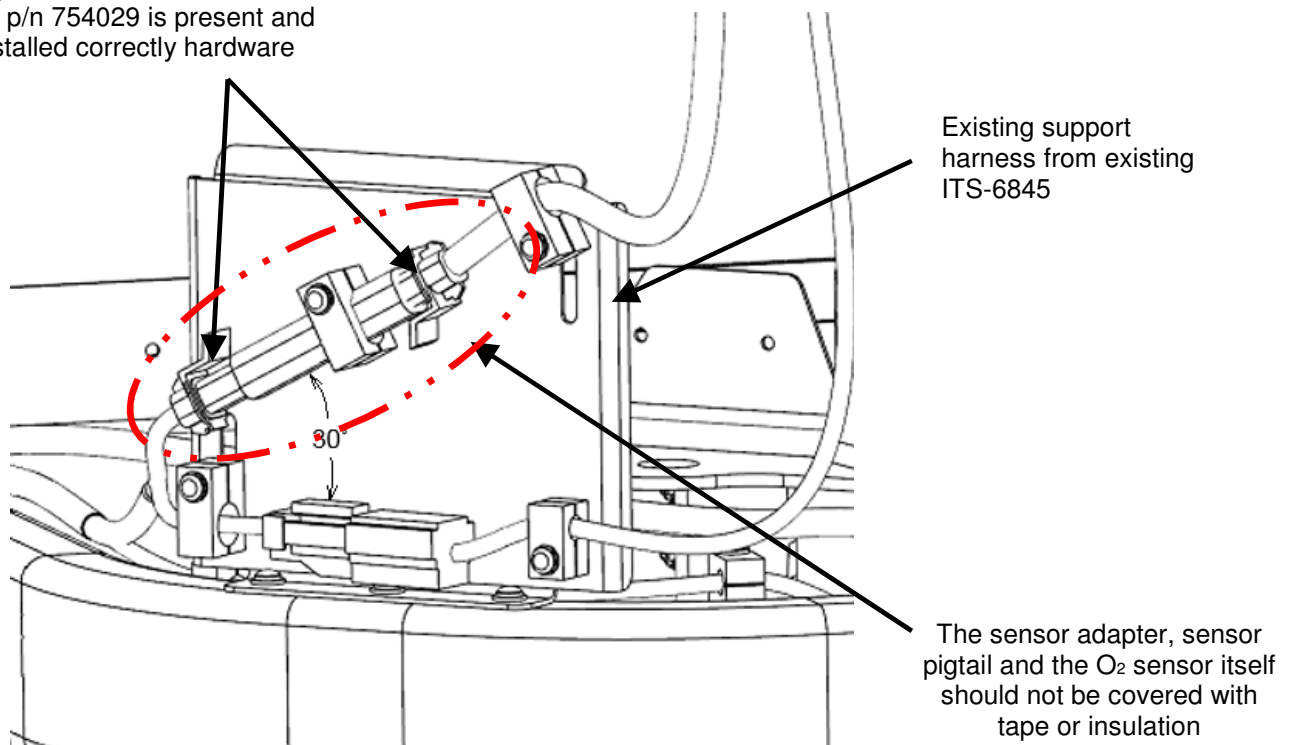

Figure 1: O₂ Sensor Blue Seal Locations
4. Verify the correct blue connector seal p/n 754029 is present and installed correctly on the adapter that comes with the aftertreatment harness from Cummins, see figure 1.
5. Verify the correct blue connector seal p/n 754029 is present and installed correctly on the New Flyer side male type connector that connects to the Cummins O₂ sensor adapter, see figure 1.